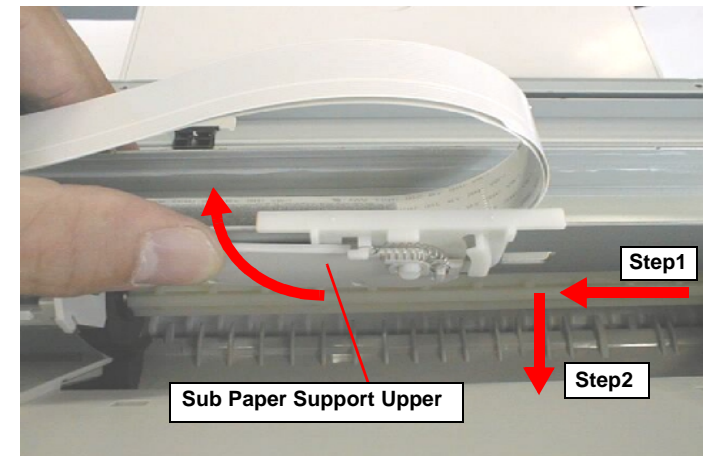

Figure 4-21. Removing the ASF Assembly (2)
- 5) Slide the ASF unit to the right side (viewed from back side) and pull it backward carefully while holding the Sub Paper Support Upper upward. Refer to the Figure 4-21.